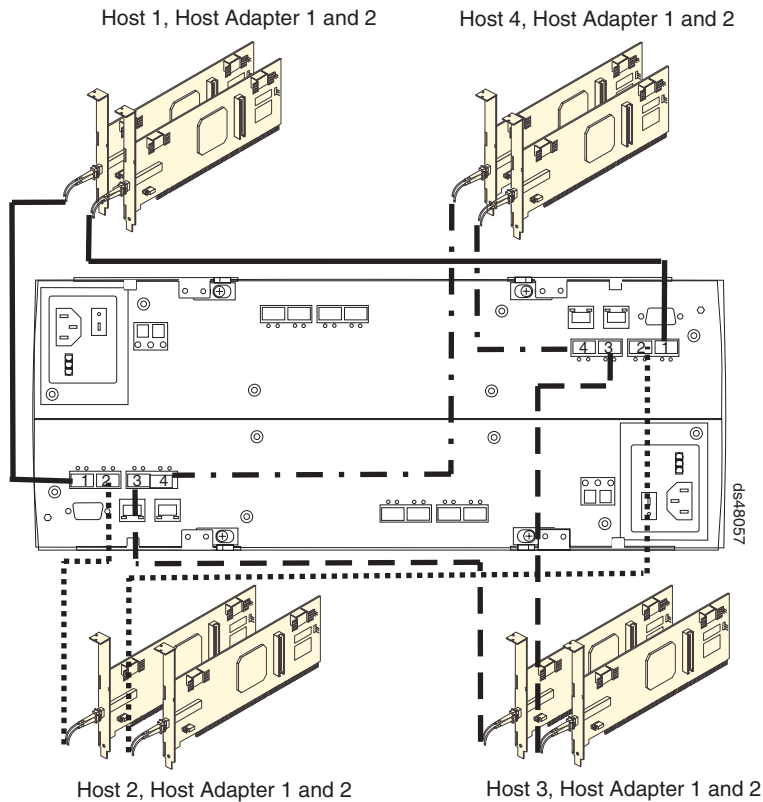

Figure 5. Redundant host-side fibre channel cabling topology
2. To connect additional redundant hosts, connect the two host server FC host adapters to the next host channels on each controller (A and B), as shown in Figure 5.